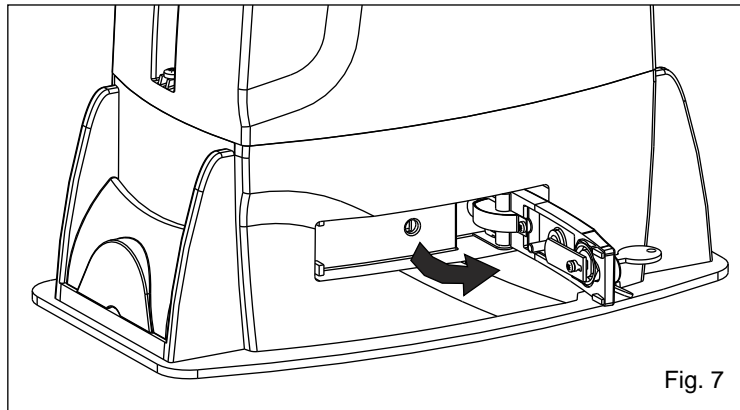

Fig. 7
- Pull the release lever until it stops, about 90° approximately (Fig. 7).